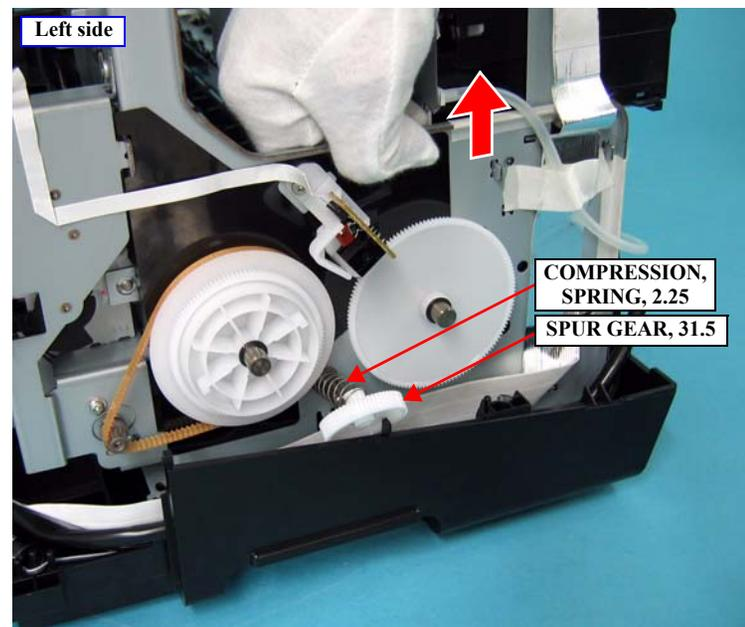

Figure 4-129. Removing the SUPUR GEAR, 31.5 (2)
5. Lift up the left side of the main frame, and remove the SPUR GEAR, 31.5 and the COMPRESSION, SPRING, 2.25 from the main frame. *See Figure 4-129.*